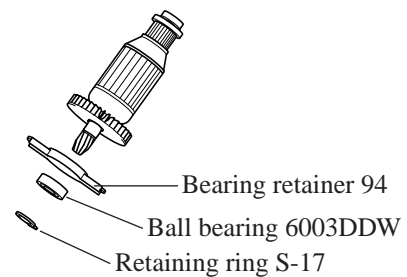

Fig. 5
- 5) Disassemble retaining ring S-17 and ball bearing 6003DDW from armature assembly. Then bearing retainer 94 can be separated from armature assembly. See Fig. 5.
- 1) Assemble bearing retainer 94, ball bearing 6003DDW. And fix the ball bearing and bearing retainer 94 with retaining ring S-17. See Fig. 5.